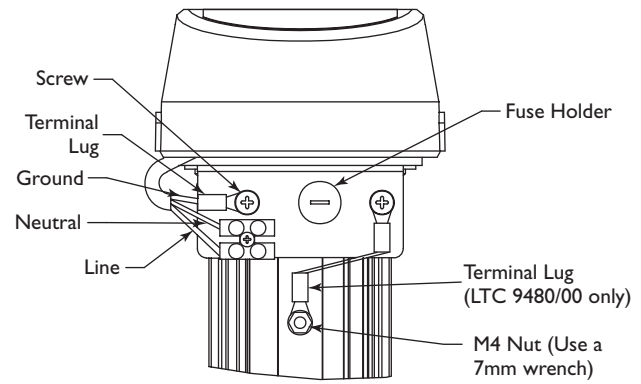

FIGURE 6 Power Connections - Non-fan Units
4. A screw/terminal lug is provided for securing a safety ground. To attach the safety grounding wire (green 115 volt, green/yellow 230 volt), first unscrew the terminal lug and strip and crimp the grounding wire into the lug. Attach the terminal lug to the bracket using the M4 x 10 screw provided (LTC 9480/00 models use an M4 Nut to screw the lug to the base). See FIGURE 6.